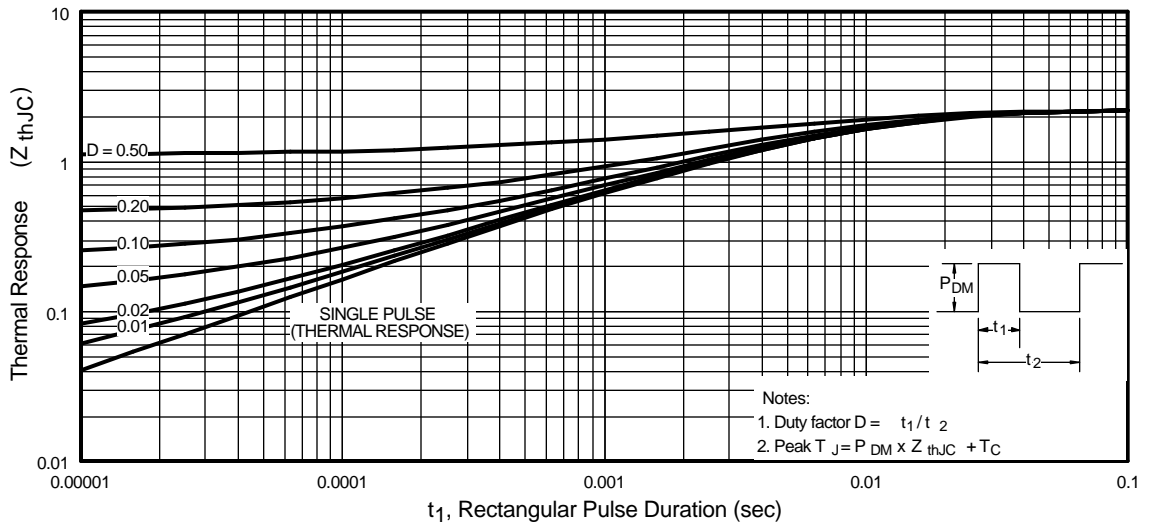

Fig 11. Maximum Effective Transient Thermal Impedance, Junction-to-Case
- ① Repetitive rating; pulse width limited by max. junction temperature. (See fig. 11)
- ② Starting $T_J = 25^\circ\text{C}$, $L = 590\mu H$